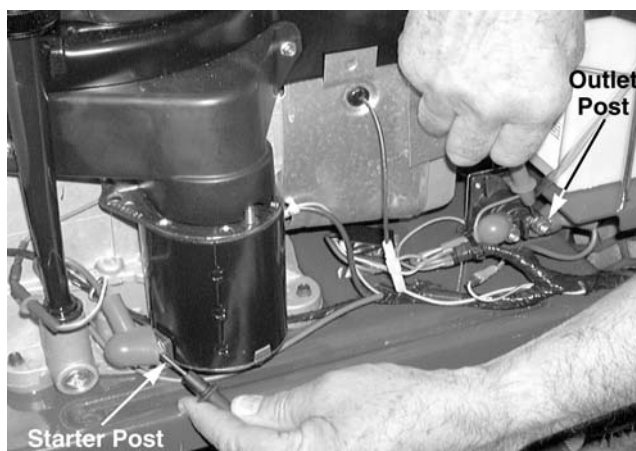

Figure 8-74.
–There will be **CONTINUITY**. See Figure 8-74.